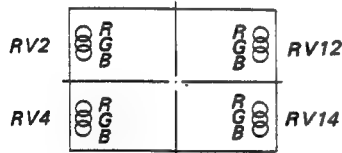

Fig. 1-17.
8. Adjust RV2, RV4 and RV12, RV14 on the DC board to coincide with the R, G and B dots as shown in Fig. 1-17.